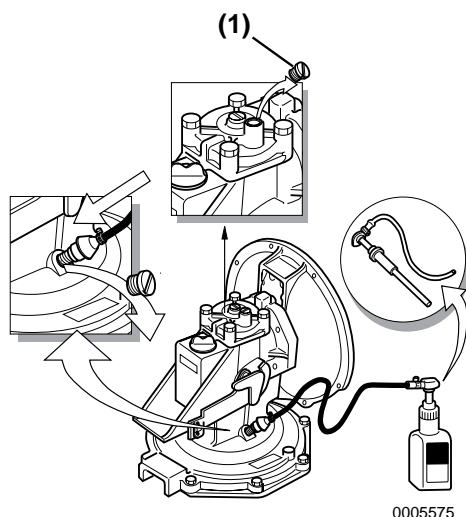

Figure 8
1. Use a MerCruiser® pump like the one shown (**Figure 8**) or use a similar pump available locally.
4. Remove the plug from the upper case cover (**Figure 8, (1)**).
6. After filling, first screw in and tighten the plug at the top cover (**Figure 8, (1)**). Then remove the oil bottle, pump, hose and adapter joint and screw in the oil plug with a gasket.